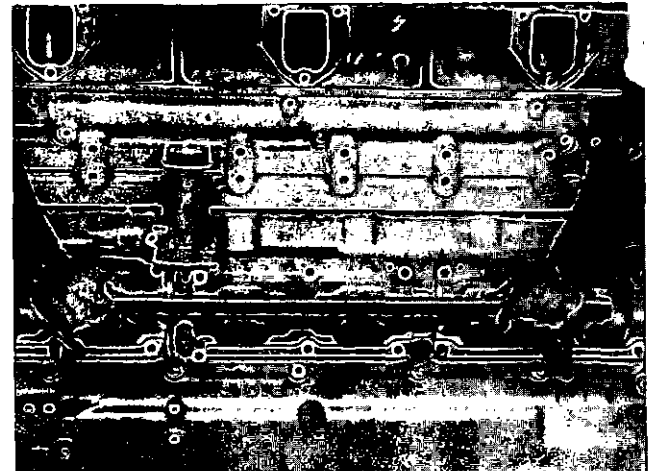

Fig. 14-30. Install The Cam Follower Assembly.
7. Install the cam follower assembly onto the guide pins and dowel pins, Fig. 14-30.